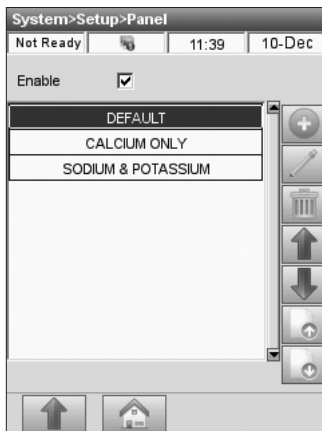

Fig. 3-39 Panels
7. To edit an existing panel, select the panel (Fig. 3-39) and press .